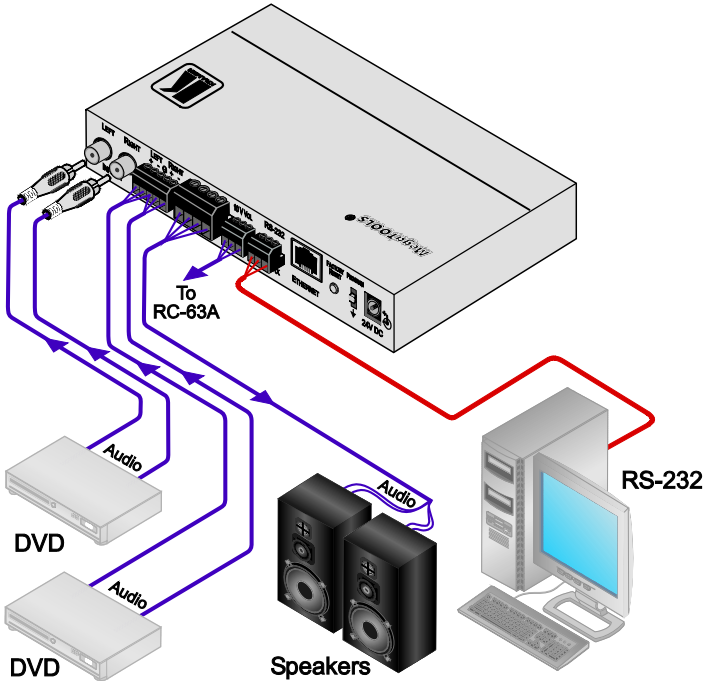

Figure 2: Connecting the 908 40W Per Channel Stereo Audio Amplifier
To connect the **908**, as illustrated in the example in Figure 2, do the following:
4. Connect the 24V DC power adapter to the power socket and connect the adapter to the mains electricity (not shown in Figure 2).